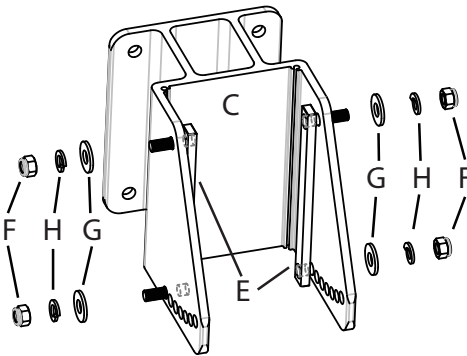

FIGURE 10
1. Assemble the (2) Bracket Sliding Straps (E) to the primary mounting bracket selecting the using the angular position holes that will be best suited for positioning the Talon as vertically as possible. Assemble the “Mounting Bracket to Anchor hardware” (E-H.) (Figure 10) onto the protruding stud and tighten lock nuts until threads are just through the nuts. The anchor assembly must be able to freely slide vertically on the straps.